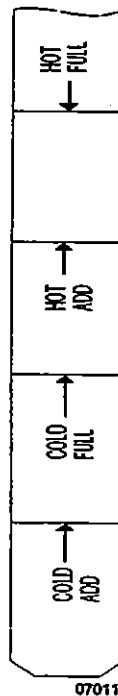

Figure 3:
2. Run the engine for at least one minute. Shift to Drive (D) and then to Reverse (R) to clear the hydraulic circuits of air. Then shift to Neutral (N) and allow the engine to idle (500 - 800 rpm).
3. While the engine is running, remove the dipstick from the tube and wipe it clean (a typical dipstick is shown in Fig. 3).
The safe operating level is anywhere within the "HOT RUN" band on the dipstick. (Typical dipsticks are shown in Figure 3).